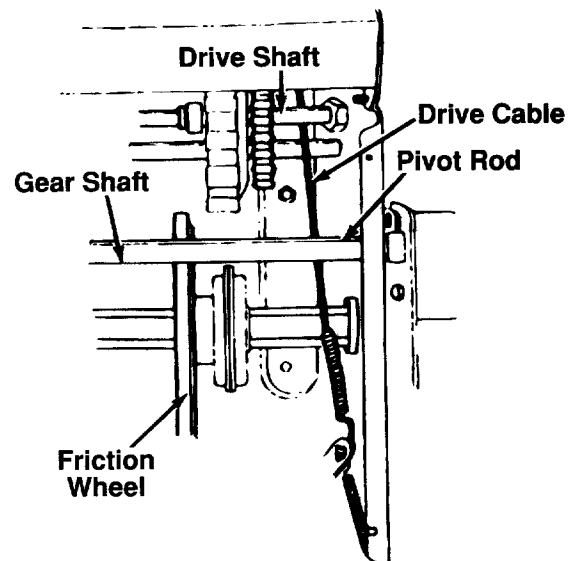
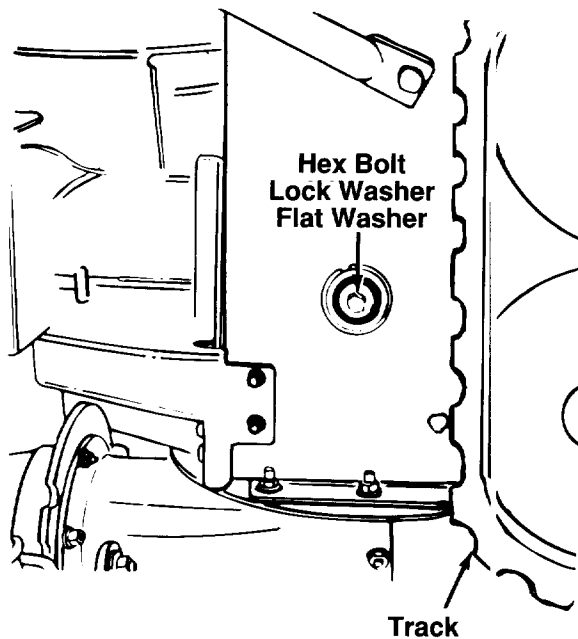

FIGURE 10.
FIGURE 18.
With the snow thrower tipped forward (be certain to drain the gasoline or place plastic film under the gas cap if the snow thrower has already been operated), remove the frame cover underneath the snow thrower by removing four self-tapping screws. With the traction drive clutch released, there must be clearance between the friction wheel and the drive plate in all positions of the shift lever. With the traction drive clutch engaged, the friction wheel must contact the drive plate. See figure 10.
Lubricate the gear shaft with "Slick 50 Grease" at least once a season or after every 25 hours of operation (available at automotive stores, or order part number 737-0290). Refer to figure 10.
4. Remove the gear shaft from the unit by removing the bolts, lock washers and flat washers from each side of the frame. See figure 18. Hold the friction wheel assembly, and slide the gear shaft out of the unit toward the right hand side. Refer to figure 10.
7. Slide the friction wheel assembly up onto the shift mechanism as shown in figure 10, and slide the gear shaft back into the unit. Reassemble in reverse order.